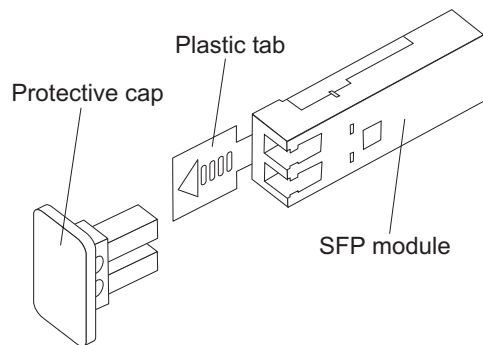

Figure 26. Small Form-Factor Pluggable (SFP) Module
2. Remove the protective cap from the SFP module, as shown in Figure 26. Save the protective cap for future use.
2. If necessary, remove the protective cap from the SFP module, as shown in Figure 26 on page 36. Save the protective cap for future use.